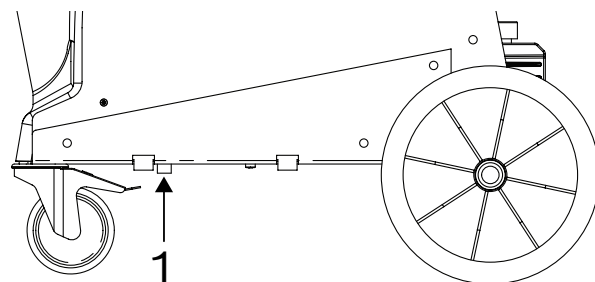

Figure 1-8. Magnet Location
1. Verify the magnet on the bottom of the machine is clean. Refer to Figure 1-8.